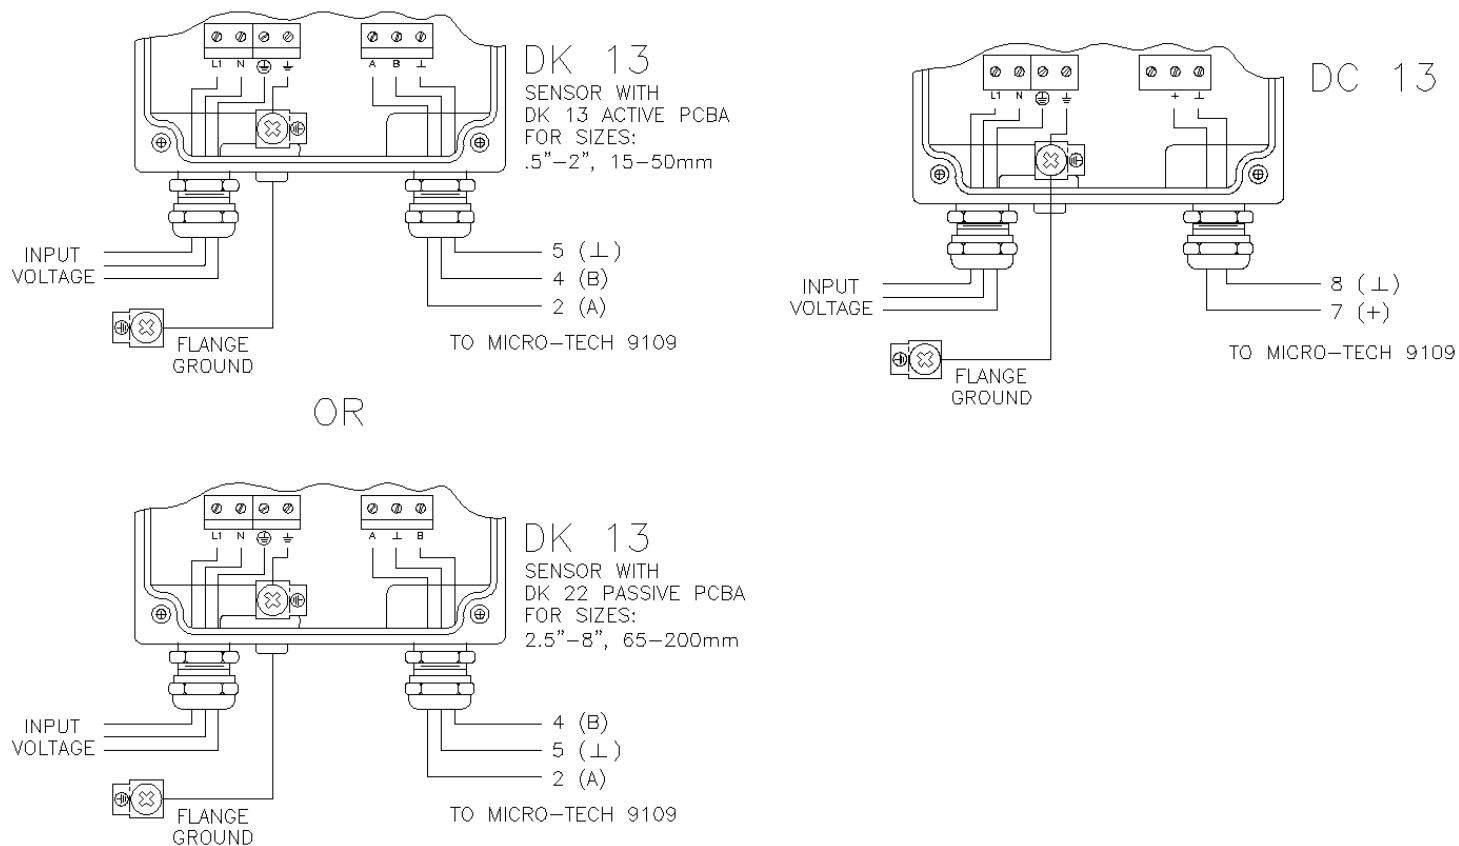

Figure B-10 Sensor Wiring
3. Wire according to Figure B-10 tighten terminal screws.